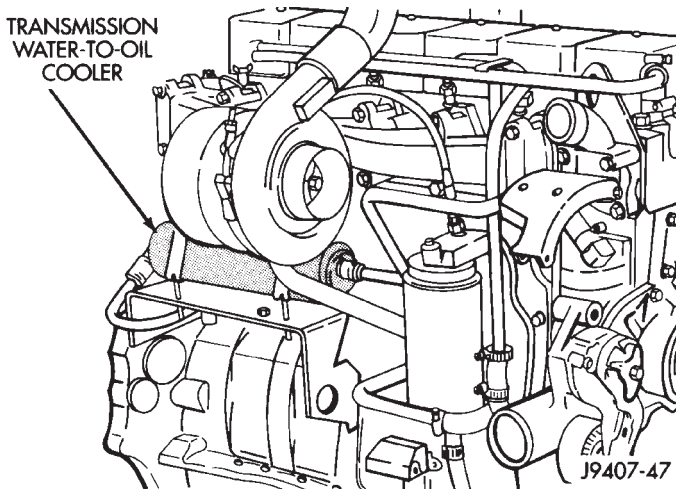

Fig. 35 Transmission Water-To- Oil Cooler—Diesel
- (1) Disconnect both battery negative cables.
- (2) Remove air cleaner assembly and air cleaner intake hoses. Refer to Group 14, Fuel System for procedures.
- (3) Drain cooling system. Refer to Draining Cooling System in this group.
- (4) Disconnect coolant lines from cooler.
- (5) Disconnect transmission oil lines from cooler. Plug cooler lines to prevent oil leakage.
- (6) Remove oil cooler mounting straps (Fig. 35).
- (7) Lift oil cooler off of mounting bracket.
- (8) If replacing cooler, make sure to transfer converter drain back valve to new cooler.